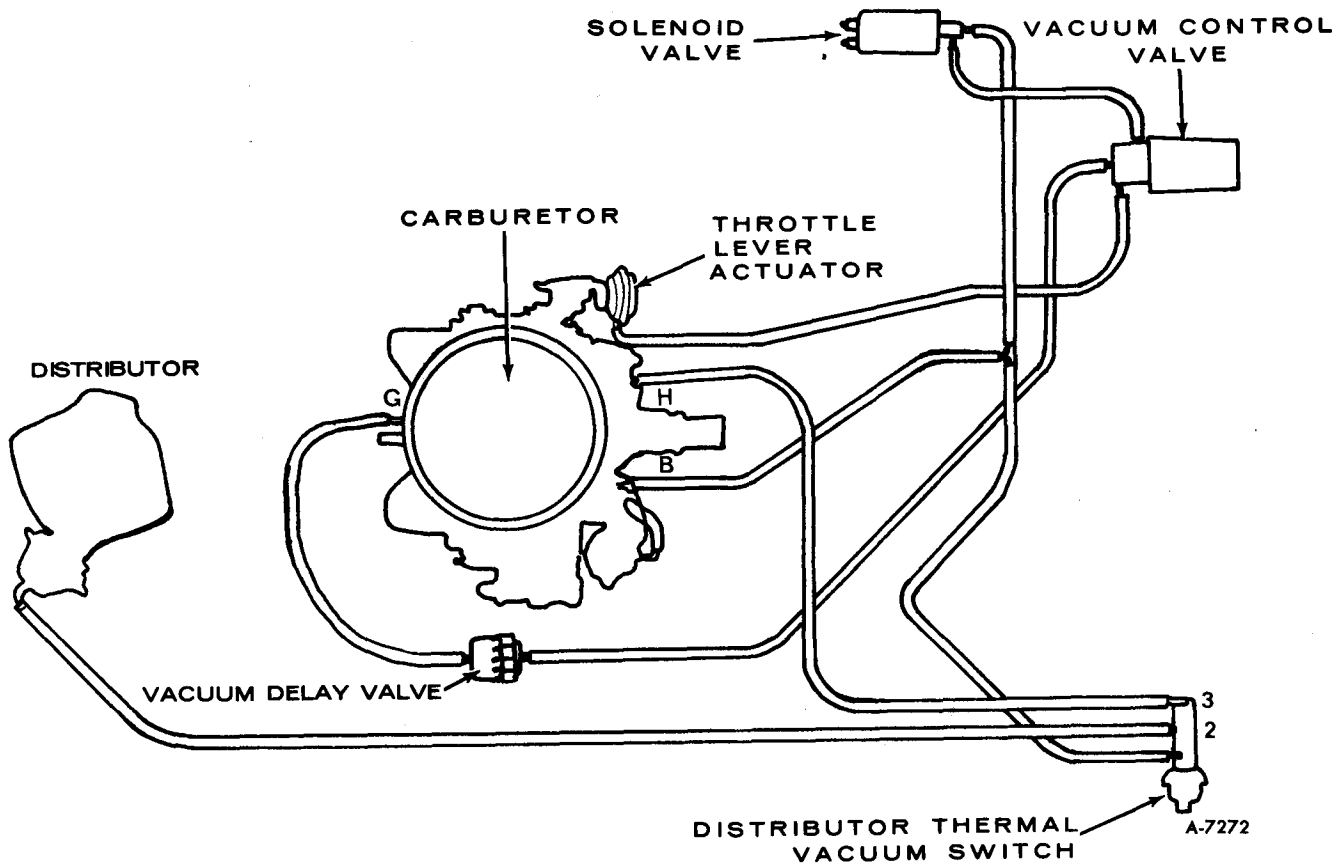

Figure 5—Emission Control Vacuum Hose Schematic (All Engines Except California)
**NOTE:** Figure 5 is a schematic of the TVS and TRC system components and hose routing for all engines except California. Figure 6 is an emission control schematic of 1977 California engines.
#### TVS (ALL ENGINES EXCEPT CALIFORNIA) (FIGURE 5)
4. Remove external vacuum source, vacuum gauge, and port cap. Reconnect vacuum hoses to proper port on switch (figure 5).
Vacuum hose routings for the throttle return control (TRC) system is shown in figures 5, 6 and 7. Figure 8 illustrates a simplified layout of the TRC system.